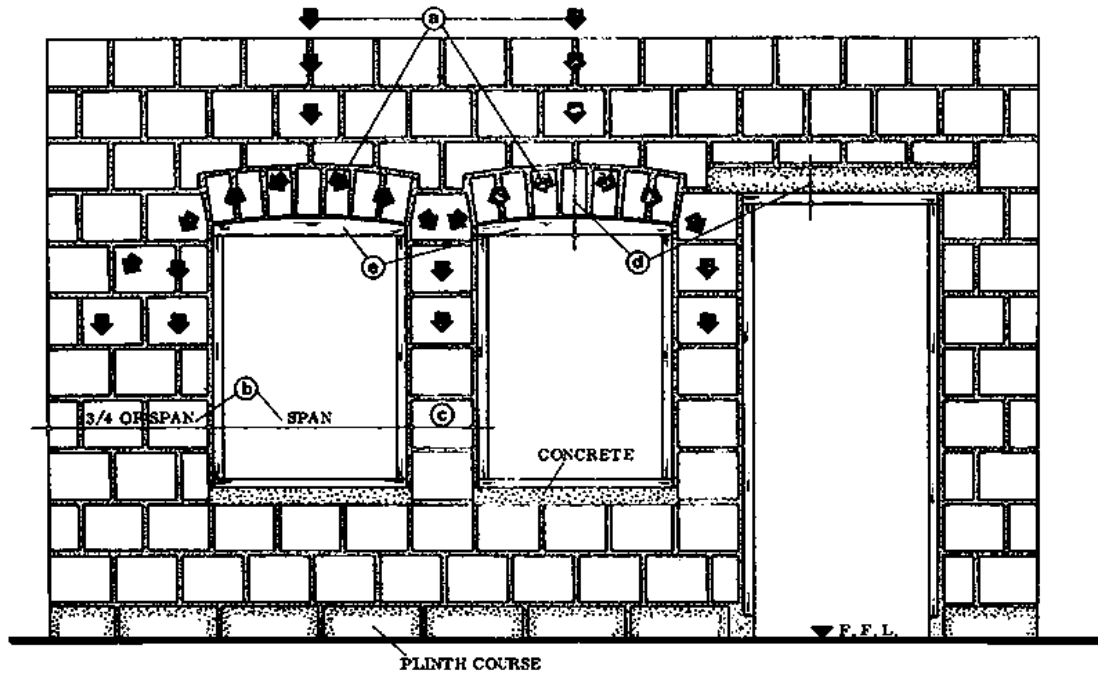

Fig. 1
All arches, regardless of their shape or dimensions, function as wedges. An arch distributes the load imposed on it to the abutments on both sides; these have to be strong enough to withstand the pressures (Fig. 1, a). This is the reason why the abutment which is at the corner or end of a wall must be at least as wide as $\frac{3}{4}$ of the span of the arch (Fig. 1, b). Between two arches, thinner supports such as columns or piers can be used (Fig. 1, c).
- All arches, especially those which have unusual shapes, require more space than a lintel (Fig. 1, d).
- Frames must be shaped on their top according to the curve of the intrados (Fig. 1, e); or if a square frame is to be fitted, the remaining space above it must be closed with plywood etc.